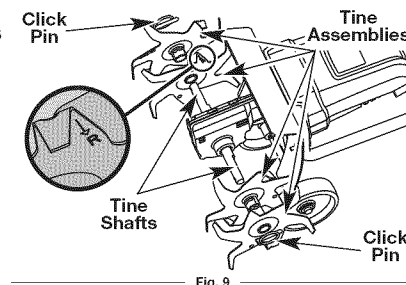

Fig. 9
2. Remove the click pin found at the end of each tine shaft (Fig. 9).